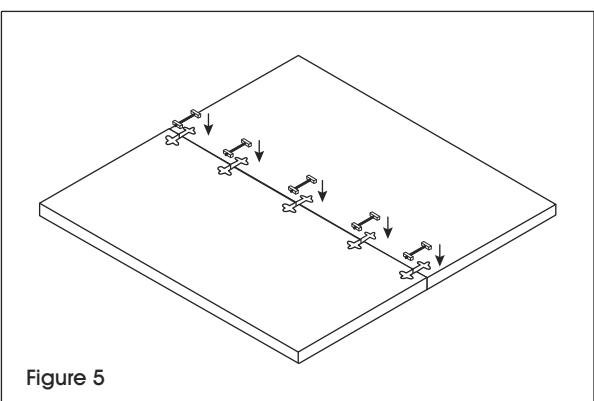

Figure 5
3. Place a tite joint fastener in each field joint opening. (See Figure 5)